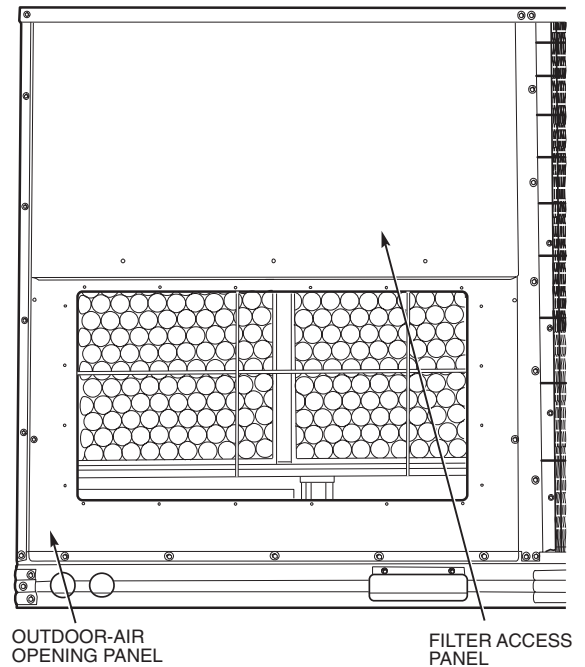

Fig. 30 — Typical Access Panel Locations
1. To remove the existing unit filter access panel, raise the panel and swing the bottom outward. The panel is now disengaged from the track and can be removed. Remove the indoor coil access panel and discard. See Fig. 30.
3. Replace the filter access panel. See Fig. 30. Ensure the filter access panel slides along the tracks and is securely engaged.